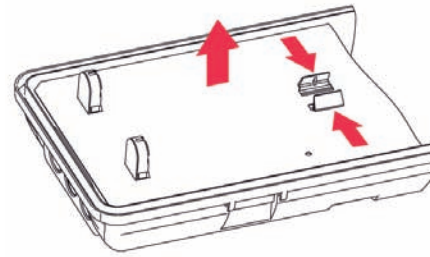

Fig 2
- Remove the gear tray from the luminaire back by squeezing the gear tray retaining. (see Fig2)